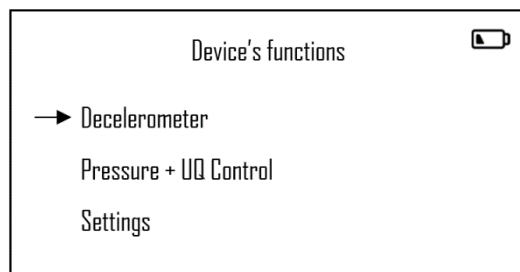

Fig. 11 – Screen of choosing the device
- 4) To switch-on the BMD-400 press the ENTER button on the device keyboard (Fig. 9). Choose the appropriate function in the device menu (Fig. 11).